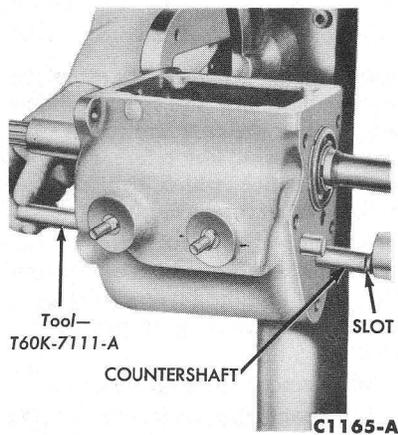

FIG. 2—Countershaft Replacement
6. Using the tool shown in Fig. 2, drive the countershaft rearward out of the cluster gear and transmission case. Then carefully lower the cluster gear assembly to the bottom of the case.
3. Insert the spacer and dummy shaft (Fig. 2) into the cluster gear assembly. Position one flat washer at each end of the spacer. Apply grease to the needle bearings and assemble the needle bearings around the dummy shaft at each end of the gear. Apply a coating of grease to the other two flat washers and the thrust washers and assemble at each end of the cluster gear. **Note the position of the tangs on the thrust washers (Fig. 1).**